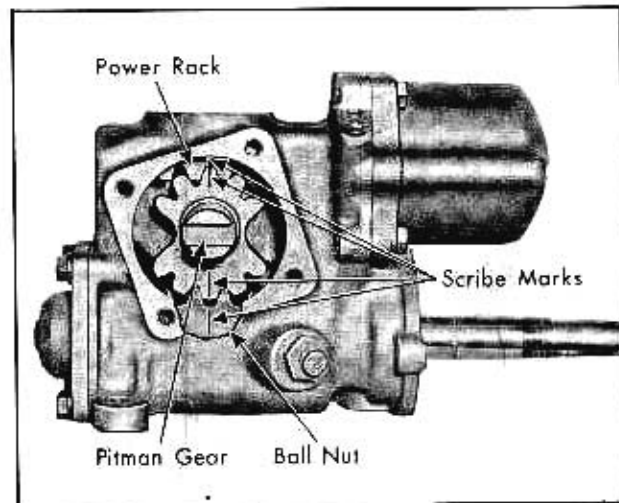

Fig. 7-26 Gear Teeth Locating Marks
5. Mark pitman gear tooth, ball nut, and power rack, as shown in Fig. 7-26, to insure proper positioning of parts when reassembling gear.